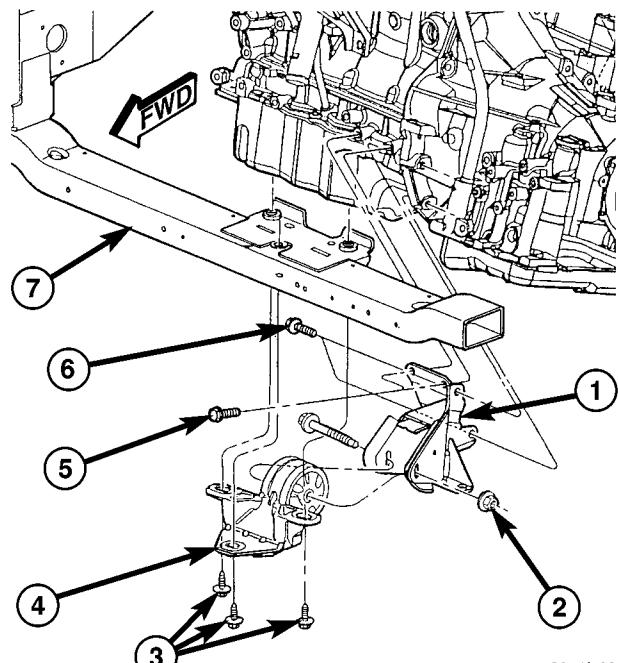

Fig. 79 Front Mount and Bracket
- (1) Raise vehicle on hoist.
- (2) Remove the front engine mount through bolt from the insulator (Fig. 79).
- (3) Remove the engine front mount bolts and remove the insulator assembly (Fig. 79).
- (4) Remove the front mounting bracket from engine, if necessary (Fig. 79).
- (1) Install the front mount bracket to engine, if removed (Fig. 79).
- (2) Install the insulator mount assembly (Fig. 79).
- (3) Install the front engine mount through bolt to the insulator (Fig. 79).
- (4) Lower the vehicle.
- (1) Raise the vehicle on hoist.
- (2) Remove the left front wheel.
- (3) Remove the left mount through bolt access cover.
- (4) Support the transaxle with a suitable jack.
- (5) Remove the engine front mount through bolt to allow left mount removal clearance (Fig. 79).
(4) Install left mount through bolt access cover.
(5) Install front mount through bolt (Fig. 79).
(6) Install left front wheel.
(7) Lower vehicle.